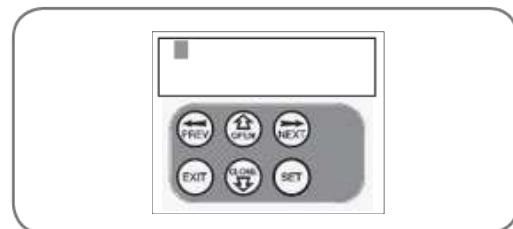

fig 28
2. Press UP or DOWN to select new Store No (**Fig.28**).